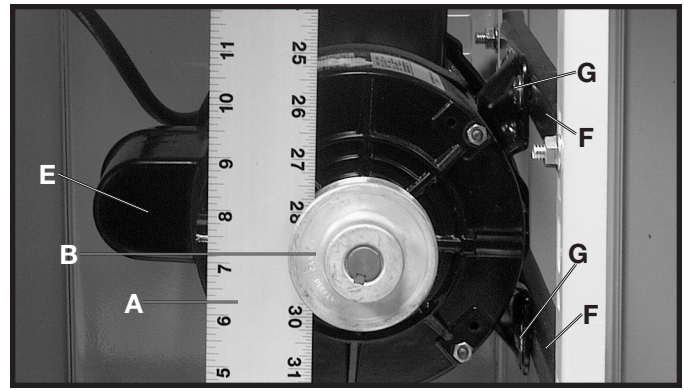

Fig. 6
Using a straight edge (A) Fig. 6, make certain the motor pulley (B) is aligned with the arbor pulley. If necessary, the motor pulley (B) can be adjusted on the motor shaft by loosening set screw and moving the motor pulley (B) in or out as needed. The motor (E) can also be moved in or out along the mounting bars (F) by loosening the four mounting screws, two of which are shown at (G) and moving the motor (E).